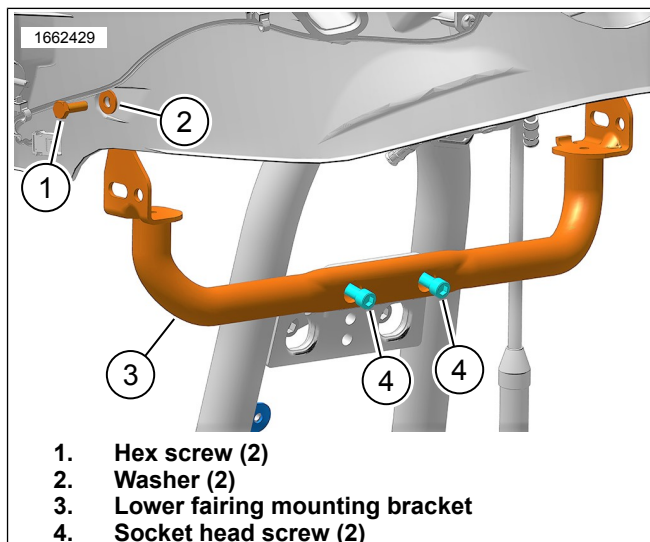

Figure 3. OE Lower Fairing Mounting Bracket
- a. See Figure 3. Remove hex screw (1) and washer (2) from both sides of lower fairing mounting bracket (3). Save washer (2) for later use.
- b. Remove socket head screws (4).
- c. Remove and discard lower fairing mounting bracket (3).